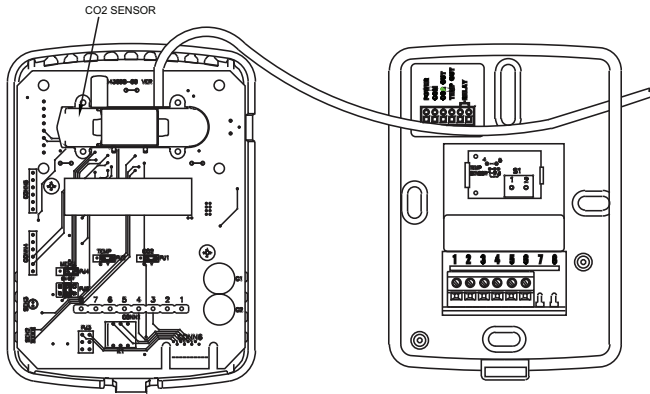

FIGURE 7: Calibration
- Step 2: Slide the calibration tubing through the slots on the back plate and attach to one of the nipples on the CO₂ sensor (See Figure 7).